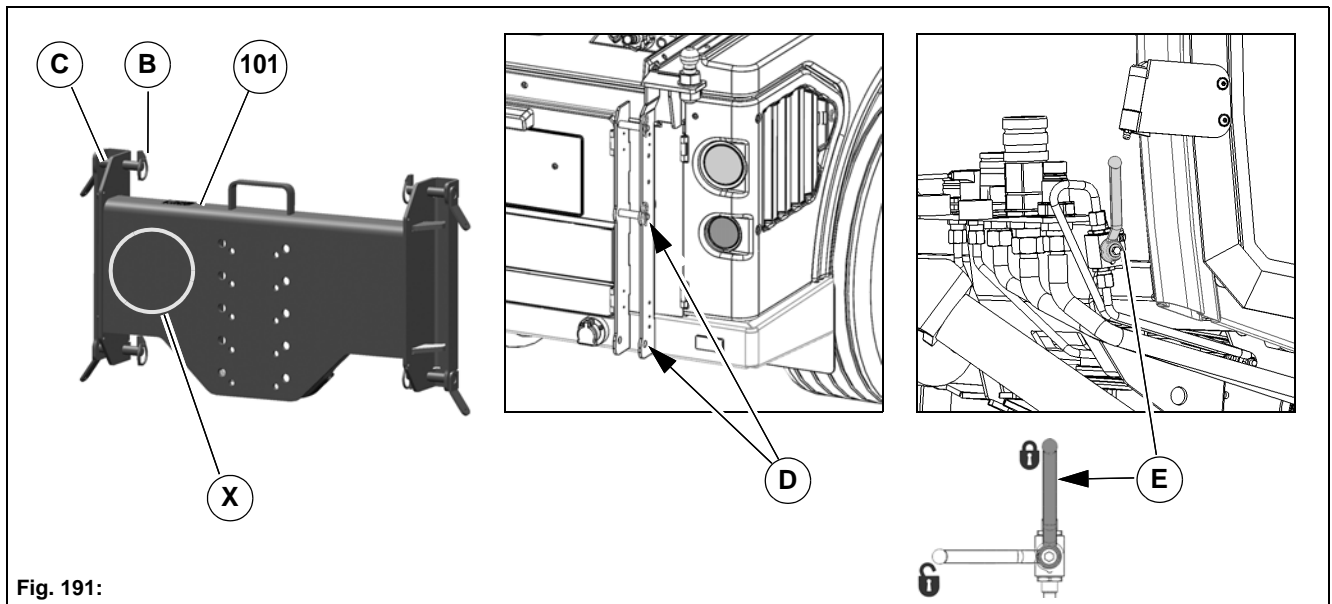

Fig. 191:
1. Remove the locking pins **Fig. 191-B** of the four bolts **Fig. 191-C** of the trailer hitch plate and withdraw the bolts.
3. Secure the trailer hitch plate with bolts and locking pins to the holding points **Fig. 191-D** of the vehicle tail.
5. Affix the Speed label at position **Fig. 191-X**.
6. Close the valve **Fig. 191-E** for the suction mouth lift system!